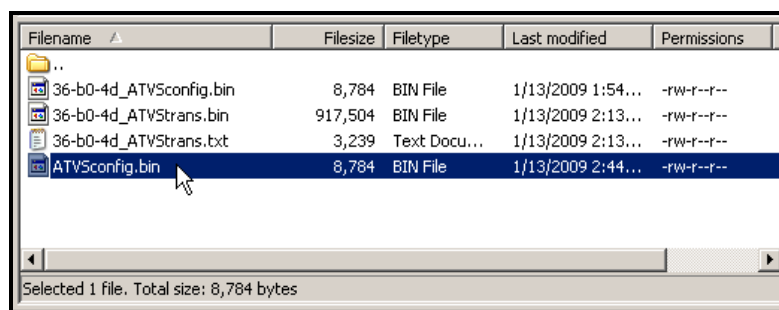

Figure 4-25. FTP Server Configuration & Transaction Files.
At the same time a Backup transaction text file is created, a Backup transaction binary file is also created. This binary file can be used by the Restore utility to restore the transaction database in a clock. This should only be necessary if the clock's flash memory was reset. The following figure shows a Backup configuration and transaction file for the same clock on an FTP Server. In the illustration, the first file labeled "36-b0-4d_ATV5Config.bin" is the configuration file for that clock. The highlighted file (see *Figure 4-25*) called "ATV5Config.bin" is the shared configuration file for multiple clocks. This file can be used by the included TS-3000i Utility on the CD to copy this configuration to multiple clocks.
- Step 3. Select the radio button for “**Are you are restoring this clock based on shared settings or is it specific to this clock only?**” The choices are: **Specific**, or **Shared**. Select Specific if you are restoring only the clock you are connected to. Select Shared if you are using the shared settings file (possibly a different clock) to transfer to this clock. See *Figure 4-25* for an example of a shared configuration file. The shared file does NOT have the MAC address. It is important to note, that when restoring a clock all the information will be changed except for the clock name. The current name in the clock will remain unchanged so that clock retains this unique identifier.